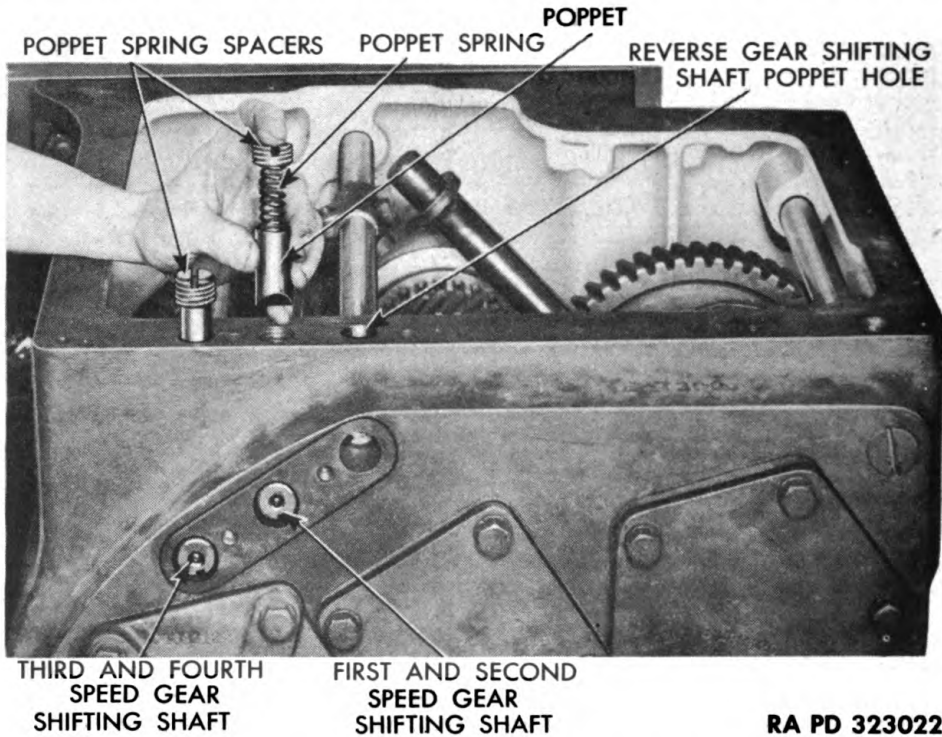

Figure 21 — Removing Shifting Shaft Poppet, Spring, and Spacer
(1) **REMOVE FIRST AND SECOND, AND THIRD AND FOURTH SPEED GEAR SHIFTING SHAFT POPPETS** (fig. 21). Remove poppet spring spacers from transmission case. When spacers are about screwed out of case, hold hand over them so that they do not fly out due to poppet spring pressure. Insert finger into spring holes in poppets, and lift them out.